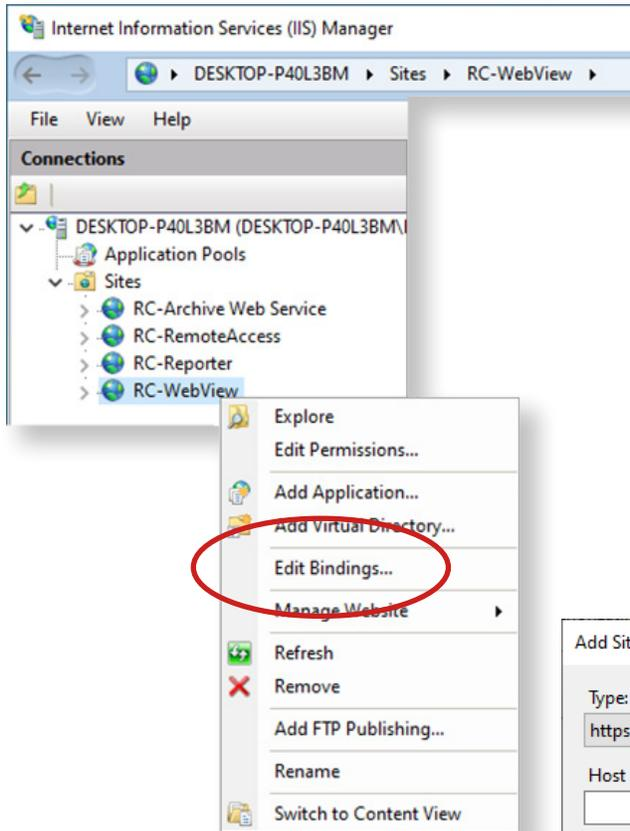

Figure 4: In IIS, right-click the site you would like to enable HTTPS on, then select **Edit Bindings...**
2. Find the site you would like to enable HTTPS for. Right-click and select **Edit Bindings...** (Figure 4) to open the Site Bindings dialog box.